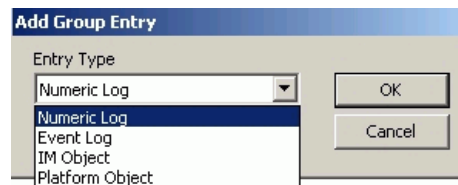

Figure 236. Add Archive Group Dialog
2. Use this dialog to select an entry type, Figure 236, then click **OK**. The options are described in Table 35.